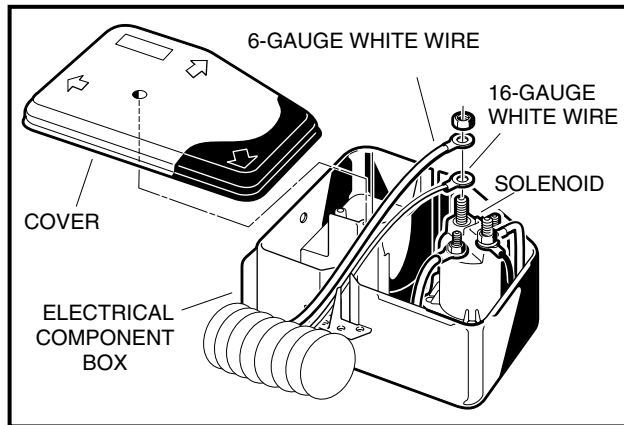

Figure 11a-30 Remove Solenoid Wires
4. Insert the key and turn the switch to the ON position. With the multimeter set to 200 Ω (ohms), place the red (+) probe of the multimeter on the (B) terminal and the black (–) probe on the (L) terminal of the key switch (**Figure 11a-28, Page 11a-27**). The reading should be continuity. If the reading is incorrect, replace the key switch. See **Key Switch Removal, Section 12a, Page 12a-16**.